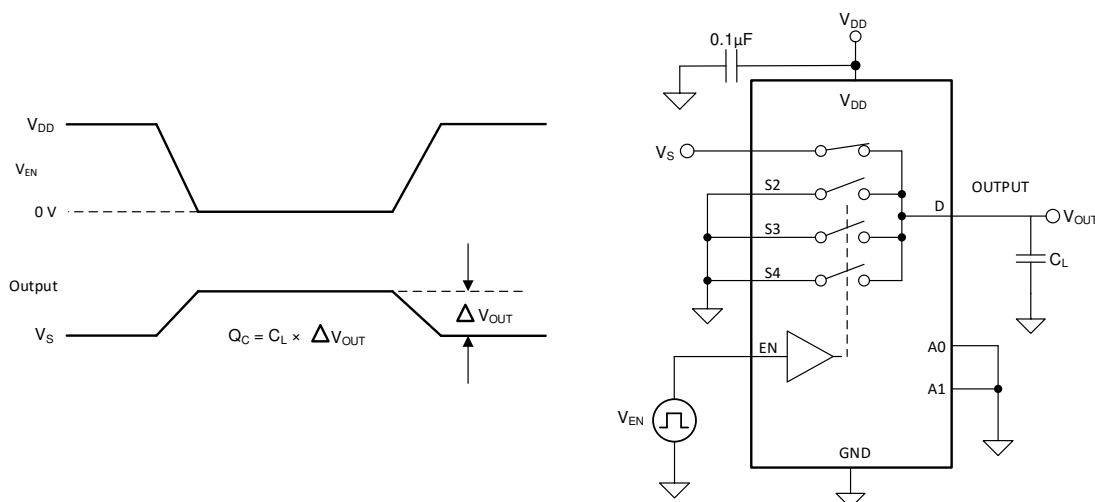

図 6-7. Charge-Injection Measurement Setup
The TMUX1104 has a transmission-gate topology. Any mismatch in capacitance between the NMOS and PMOS transistors results in a charge injected into the drain or source during the falling or rising edge of the gate signal. The amount of charge injected into the source or drain of the device is known as charge injection, and is denoted by the symbol Q_C . 図 6-7 shows the setup used to measure charge injection from source (S_x) to drain (D).